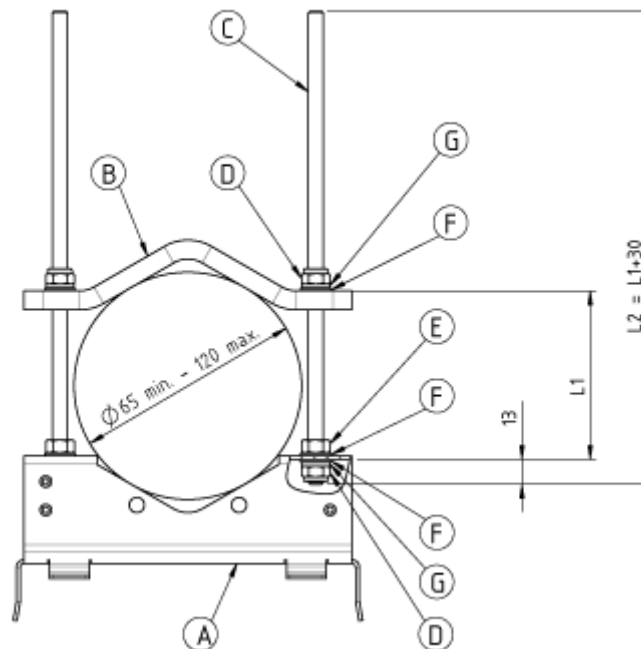
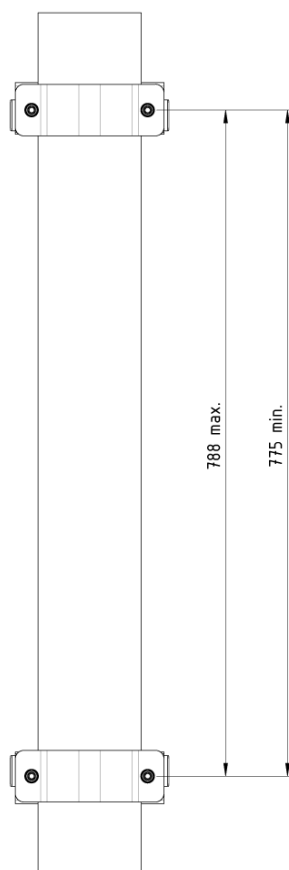

figure 4-7 Pole mounting – with brackets
figure 4-8 Pole mounting - pitches
Screw a hexagon nut (E) to the threaded bolt and place a flat washer (F) on it. Insert this side of the bolt into the mounting bracket (A). Then, fasten the mounting bracket with a flat washer (F), split lock washer (G), and the locking nut (D). See figure 4-7 Pole mounting – with brackets.
2. Place the pre-mounted brackets with threaded bolts to the pole or post, slide the counter bracket (B) on the threaded bolts and fasten the kit with a flat washer (F), split lock washer (G), and the locking nut (D).
- F Note:** When fastening the brackets make sure that they are installed congruently and not at an angle to each other. To determine the distance between the clamps refer to figure 4-8 Pole mounting - pitches.
3. Hang the Extension Unit into the upper bracket, insert it into the lower bracket (see chapter 4.2.4), and fasten it to the lower bracket with the M8x25 screws (H), split lock washers (G), and flat washers (F).